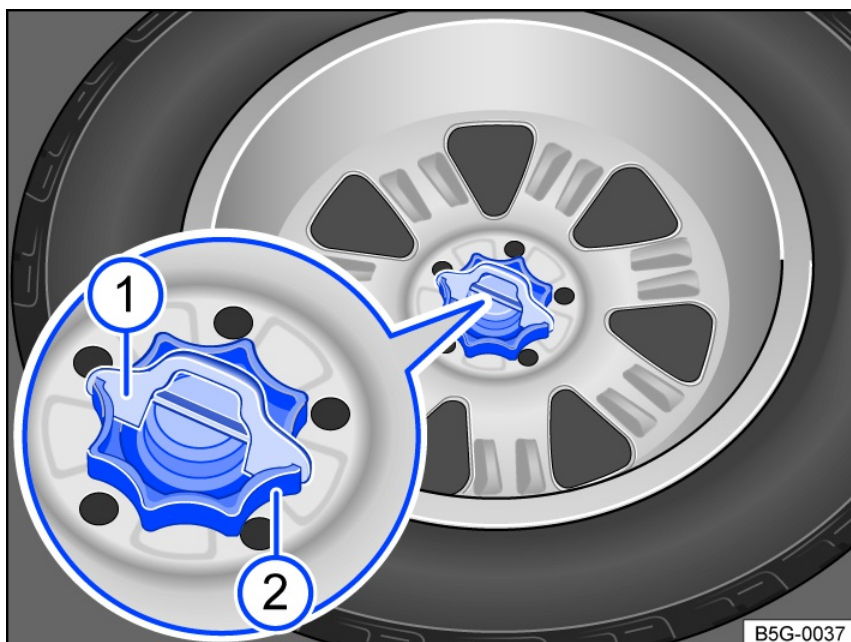

Fig. 214 In the luggage compartment: handle to secure the compact spare wheel.
- Remove the locking wedge *fig. 214* upward.
- Unscrew the handwheel in the center of the spare wheel *fig. 214* all the way counterclockwise.
- Position the locking wedge *fig. 214* in the slot on the threaded pin so that the handle will not be able to turn.